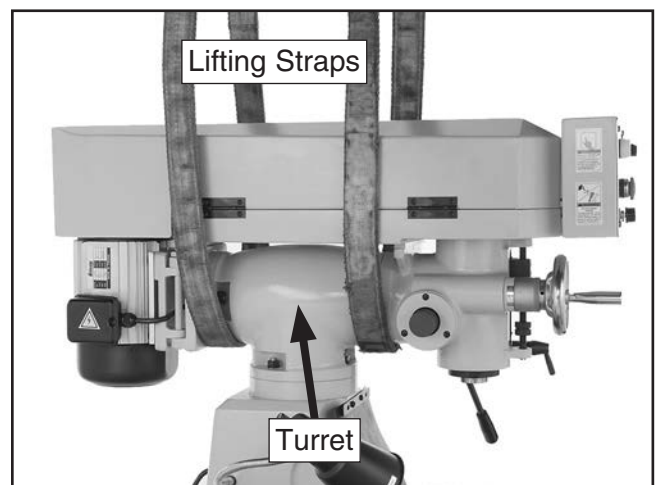

Figure 6. Positioning the lifting straps.
1. After removing the crate from the shipping pallet, wrap lifting straps around the turret, as shown in **Figure 6**, and securely attach them to your power lifting equipment.